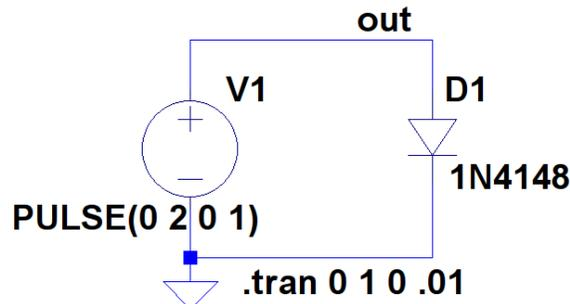

Figure 5: Simulate the voltage and current relationship of a diode
- Create the circuit in figure 5. Once you have placed the diode, right click the symbol and choose 1N4148.